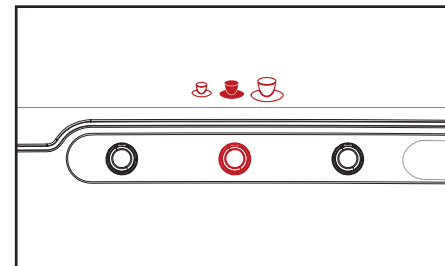

Fig. 4.5 - Volume preselection
2. Press the preselection button **VOLUME** to activate this preselection. A cup icon (small - medium - large) is displayed (fig. 4.5).